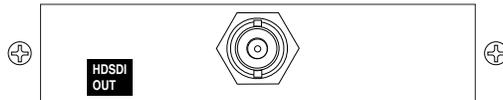

Figure 2-11 — Optional HD-SDI output board
- 9c) **HD-SDI output connectors (optional)** — If the optional HD-SDI output board is installed, connect an HD-SDI display to this female BNC connector (figure 2-11). This connector outputs the program image only.